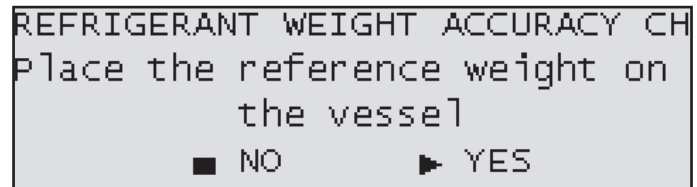

Fig. 35: Place weight screen
6. Follow the instructions on the screen and when the screen in Fig. 35 is displayed, place the reference weight below the tank over the two screws of the load cell and press **YES** (**→**).